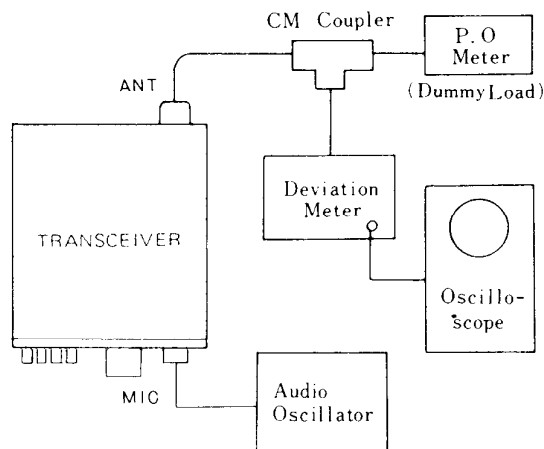

Figure 3
(6) Low Power Output Setting
(7) FM Modulator Adjustment
- a) Refer to Fig. 3, and set up the transceiver and test equipment as shown.
(8) Tone Burst Adjustment
- a) Set up the test equipment as specified in Fig. 3.